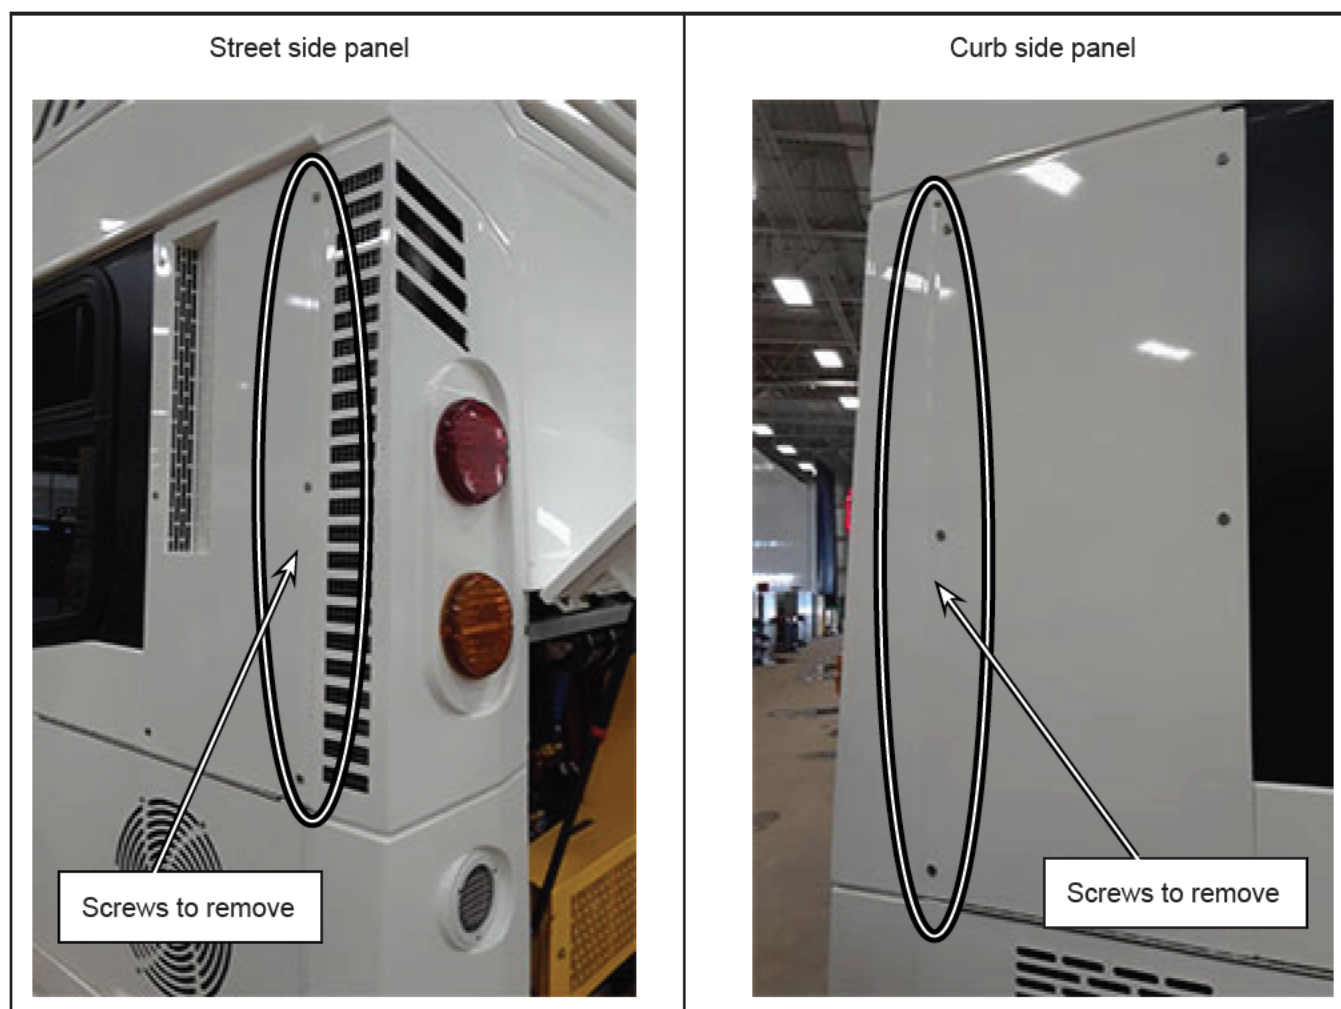

Figure 1 - Side Panel Screws to Remove
- 1.1. Remove the 3 screws retaining the street and curb side panels on the side of the vehicle. If one of the screws spins or it is hard to remove, you will need to perform the level 2 rivnut replacement procedure. See Figure 1